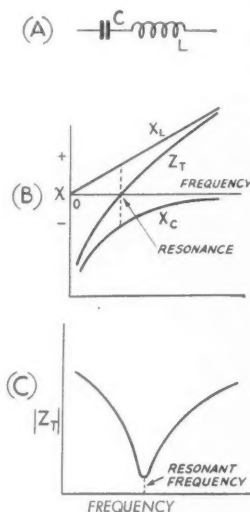
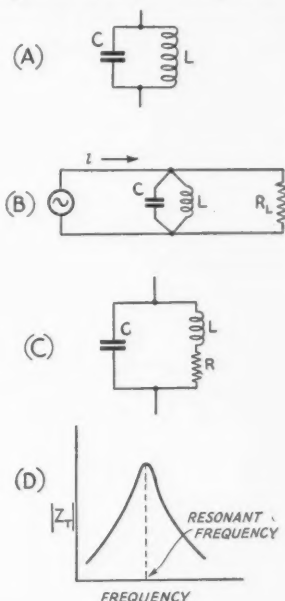

Fig. 1
Fig. 2
Fig. 1-A shows a simple series circuit consisting of a coil and condenser. Just as with resistors in series, where the resultant resistance is the sum of the resistances, the resultant impedance of the series circuit is the sum of the two reactances in series. Since the reactance of a coil or condenser varies with frequency according to the formulas:
Fig. 1-B shows the inductive and capacitive reactances of a series circuit plotted on the same graph. The sign of the inductive reactance is positive, while that of capacitive reactance is negative. If the values of these reactances are added at every frequency, the result will be the series-circuit impedance curve shown in Fig. 1-B.
The theory indicates that, because the net reactance is zero in a series-resonant circuit, the impedance would also be zero at resonance. This is not strictly true in practice, because there is always some resistance in the coil. It is true, however, that at resonance the impedance takes on a minimum value equal to the resistance of the coil, and that it increases on each side of resonance as indicated in Fig. 1-C. Fig. 1-C is a plot of
the absolute value1 of the sum of the coil and condenser reactance curves of Fig. 1-B, taking into account the fact that the coil resistance prevents the impedance from going to zero at resonance.
Fig. 2-A shows a simple parallel circuit consisting of a coil and condenser. Such a parallel circuit may be thought of as a coil and condenser shunted across a line, as shown in Fig. 2-B. An oscillator or generator appears at the left-hand end of the line and a load (antenna or other device being driven) at the right-hand end. If the generator has internal resistance the maximum energy will reach the load when the coil and condenser combination has the least shunting effect. In other words, to have the greatest possible power in  $R_L$  the current drawn by coil-condenser combination must be as small as possible in comparison to the current drawn by  $R_L$ . This condition will be attained if the impedance of the parallel-resonant circuit is high in comparison to  $R_L$ . A high impedance at resonance is a characteristic of the parallel-resonant circuit. We shall now see why this is so.
where  $Z_1$  and  $Z_2$  are the total series impedances of each parallel branch. For example, in the parallel-resonant case shown in Fig. 2-A, the resulting parallel impedance is given by the formula
Again considering the circuit shown in Fig. 2-B, it may be seen that, since the inductive reactance increases with frequency and the capacitive reactance decreases with frequency, the frequency at which the two reactances become equal will yield the highest impedance and thus the least shunting effect on the line. At frequencies somewhat greater than resonance the capacitive branch will have less reactance than the inductive branch (see Fig. 1-B) and so the parallel impedance approaches the reactance of the condenser alone. This is true, of course, because in parallel circuits the branch having the least numerical value of impedance becomes the controlling branch, the net value of the circuit impedance approaching the value of this smaller branch. At frequencies somewhat lower than resonance the inductive branch has a reactance smaller than that of the capacitive branch and thus becomes the controlling factor for the reason outlined above. It is seen that the impedance of a
at resonance in parallel-resonant circuits, it will be observed that the denominator of equation (10) for parallel-resonant impedance becomes zero, and thus the impedance is theoretically infinite at resonance. However, as mentioned previously, there is always some resistance in the coil which will prevent this from happening. This case is illustrated in Fig. 2-C. Substituting the impedances of the two parallel branches in equation (9), we get2
The parallel-resonant impedance can never become infinite so long as  $R$  is not zero, but it may be made large by causing  $R$  to be small in comparison to  $X_L$ . Fig. 2-D shows the impedance of a parallel-resonant circuit plotted against frequency.